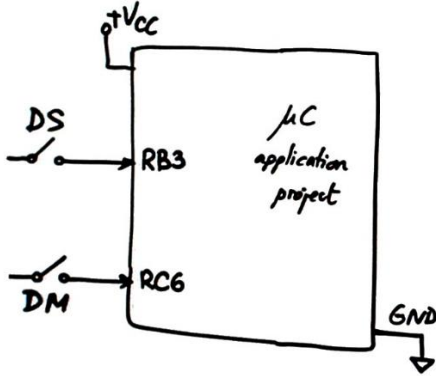

Fig. 4.
4. Read the pins display minutes (DM) and display seconds (DS) of the application represented in Fig. 4 connected at RC6 and RB3 respectively. Explain the flowchart and how are evolving variable content using bitwise operations. Draw and explain what is a power-on reset circuit and how does it work.